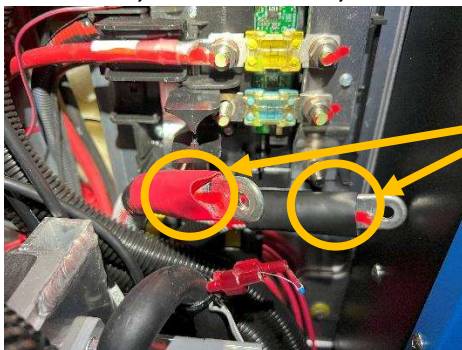

Figure 6
13. Install 1 of the provided **red** heat shrink sections to the end of the negative/black lead so the original black coloring is covered up; apply heat to shrink onto the cable. See figure 6
14. Install 1 of the provided **black** heat shrink sections to the positive/red lead so the original red coloring is covered up; apply heat to shrink onto the cable. See figure 6